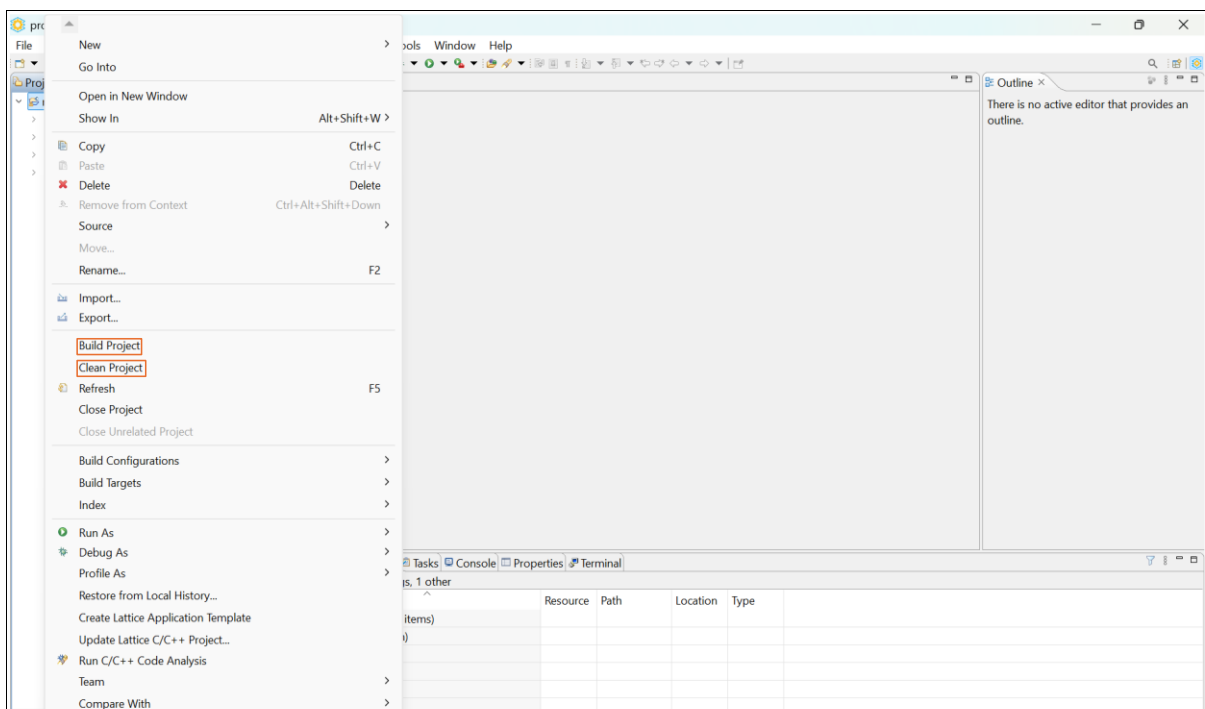

Figure 5.7. Launch the Project Building Process
- To launch the project building process, right-click on the process name **riscv_mc**, select **Clean Project** from the menu to clean up the output folders. Then, select **Build Project** from the menu, as shown in Figure 5.7. The output riscv_mc.mem file is located at: